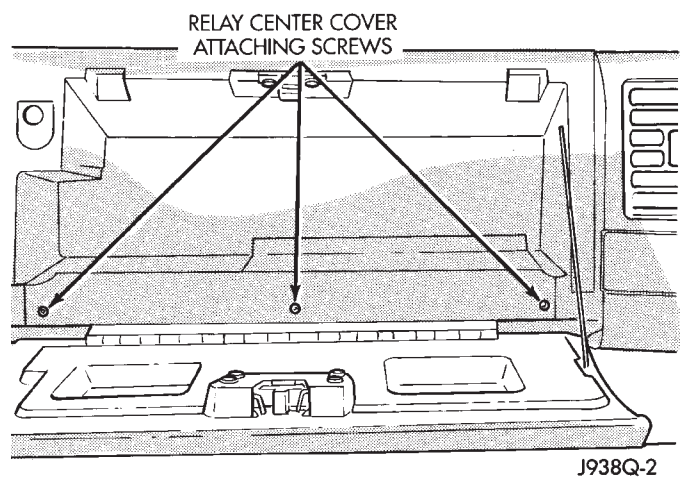

Fig. 10 Relay Center Cover
(1) Open glove box and remove 3 screws holding relay center cover (Fig. 10).